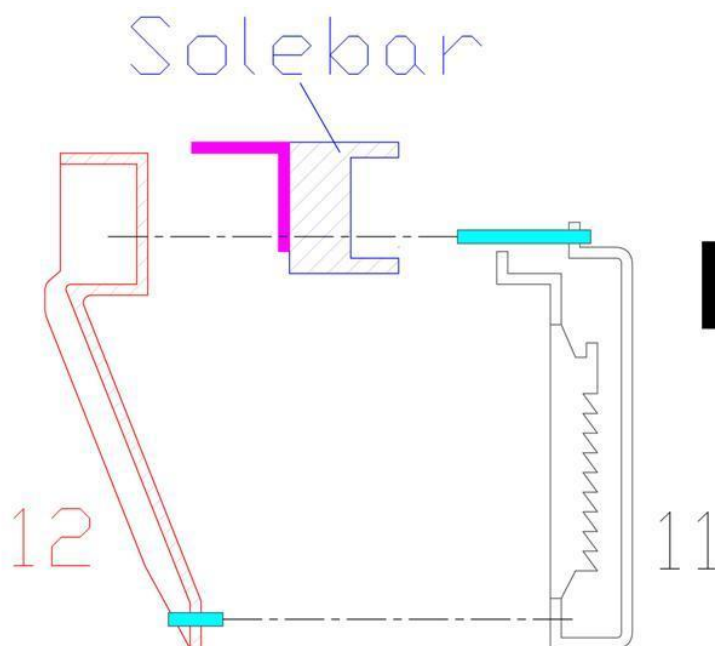

Fig. 4
Check that the holes in the unfitted brake lever guards (11) and the unfitted brake lever guard stays (12) can accept 0.31mm wire and remove from the fret. Fold up as per Fig. 4, there are half etched guides for making the rounded corners on the guard and the ratchet also needs folding out. Solder short lengths of wire to the bottom hole in the stay and the top hole in the guard.